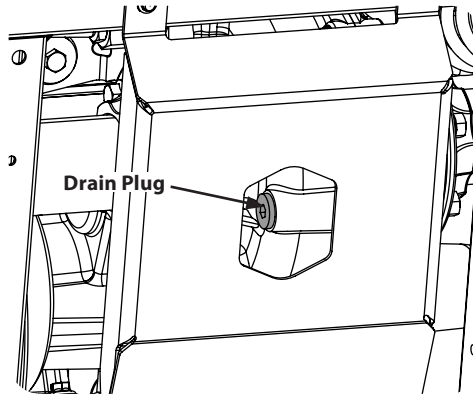

Figure 4-5
4. Access drain plug on underside of machine and remove plug. See Figure 4-5.